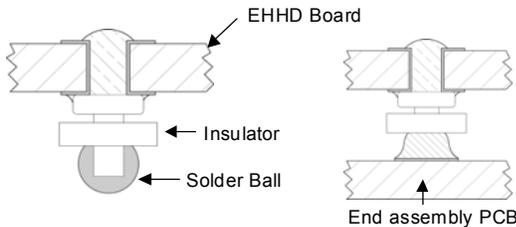

Figure 22. Column Pin Connector Before and After Reflow Soldering.
The surface mountable modules in the EHHD006A0Bxx-S family use our newest SMT technology called "Column Pin" (CP) connectors. Figure 22 shows the new CP connector before and after reflow soldering onto the end-board assembly. The CP is constructed from a solid copper pin with an integral solder ball attached, which is composed of tin/lead (Sn/Pb) solder for non-Z codes, or Sn/Ag₃/Cu (SAC) solder for -Z codes.